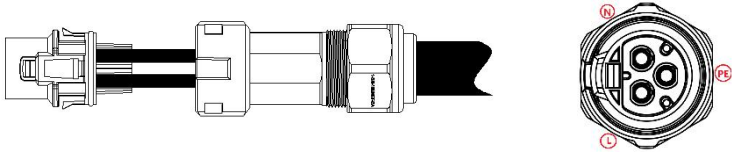

Fig 5.8 Crimp cable terminal
(1) According to Table 5-2, the three conductors of single-phase public power grid L, N and PE are correctly connected to the corresponding holes according to the identification, and ensure that the conductors are not exposed and crimped firmly, and finally tighten the waterproof cap, as shown in Fig 5.8;